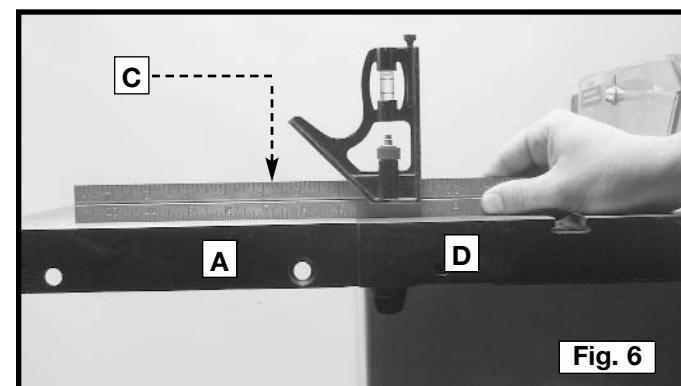

Fig. 6
Use a straight edge (C) Fig. 6 to be sure that the extension wing (A) and the saw table (D) are even with each other before tightening the screws (B) Fig. 5.